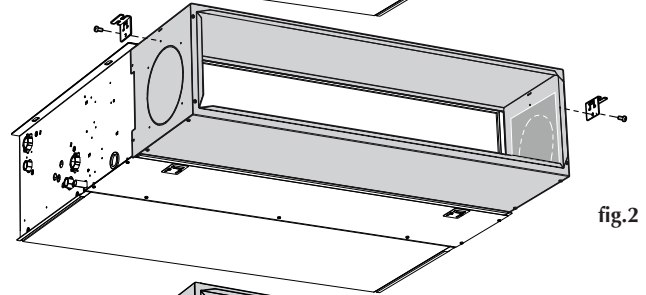

fig.2
- Install the two fixing brackets in the appropriate side slots and fasten them using the two screws provided (fig.2)